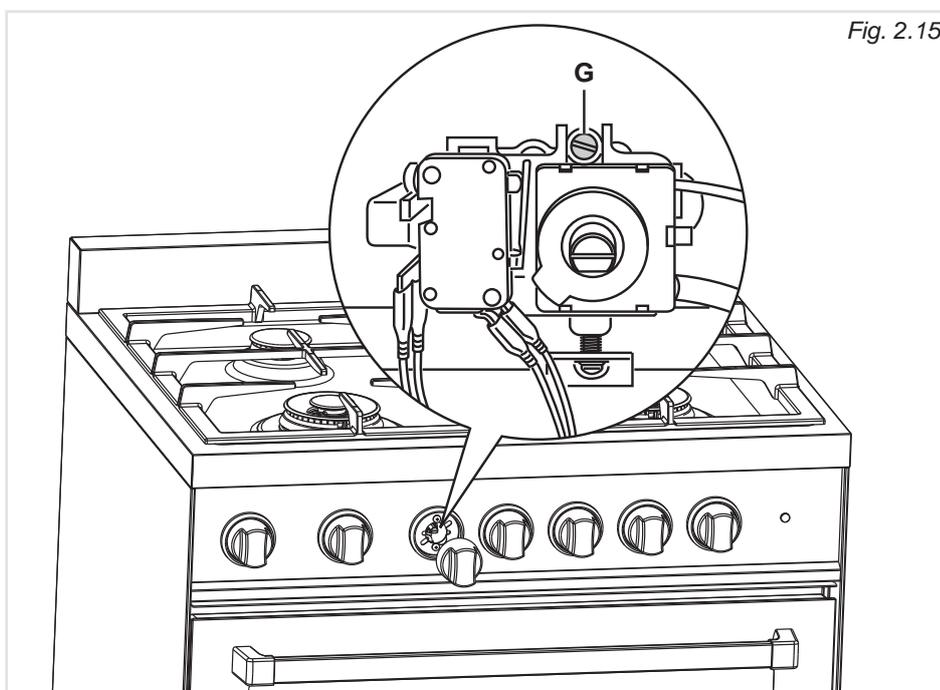

Fig. 2.15
- Remove the knob and unscrew the by-pass screw “G” (fig. 2.15) about three times by passing a small flat screwdriver (Ø 3 mm blade, 100 mm length) through the panel opening.
- After having removed the knob again and being very careful not to turn the tap rod, slowly screw the by-pass screws “G” (fig. 2.15) until you obtain a flame of 3-4 mm in height. The flame should not go out even when passing suddenly from maximum to minimum flame.